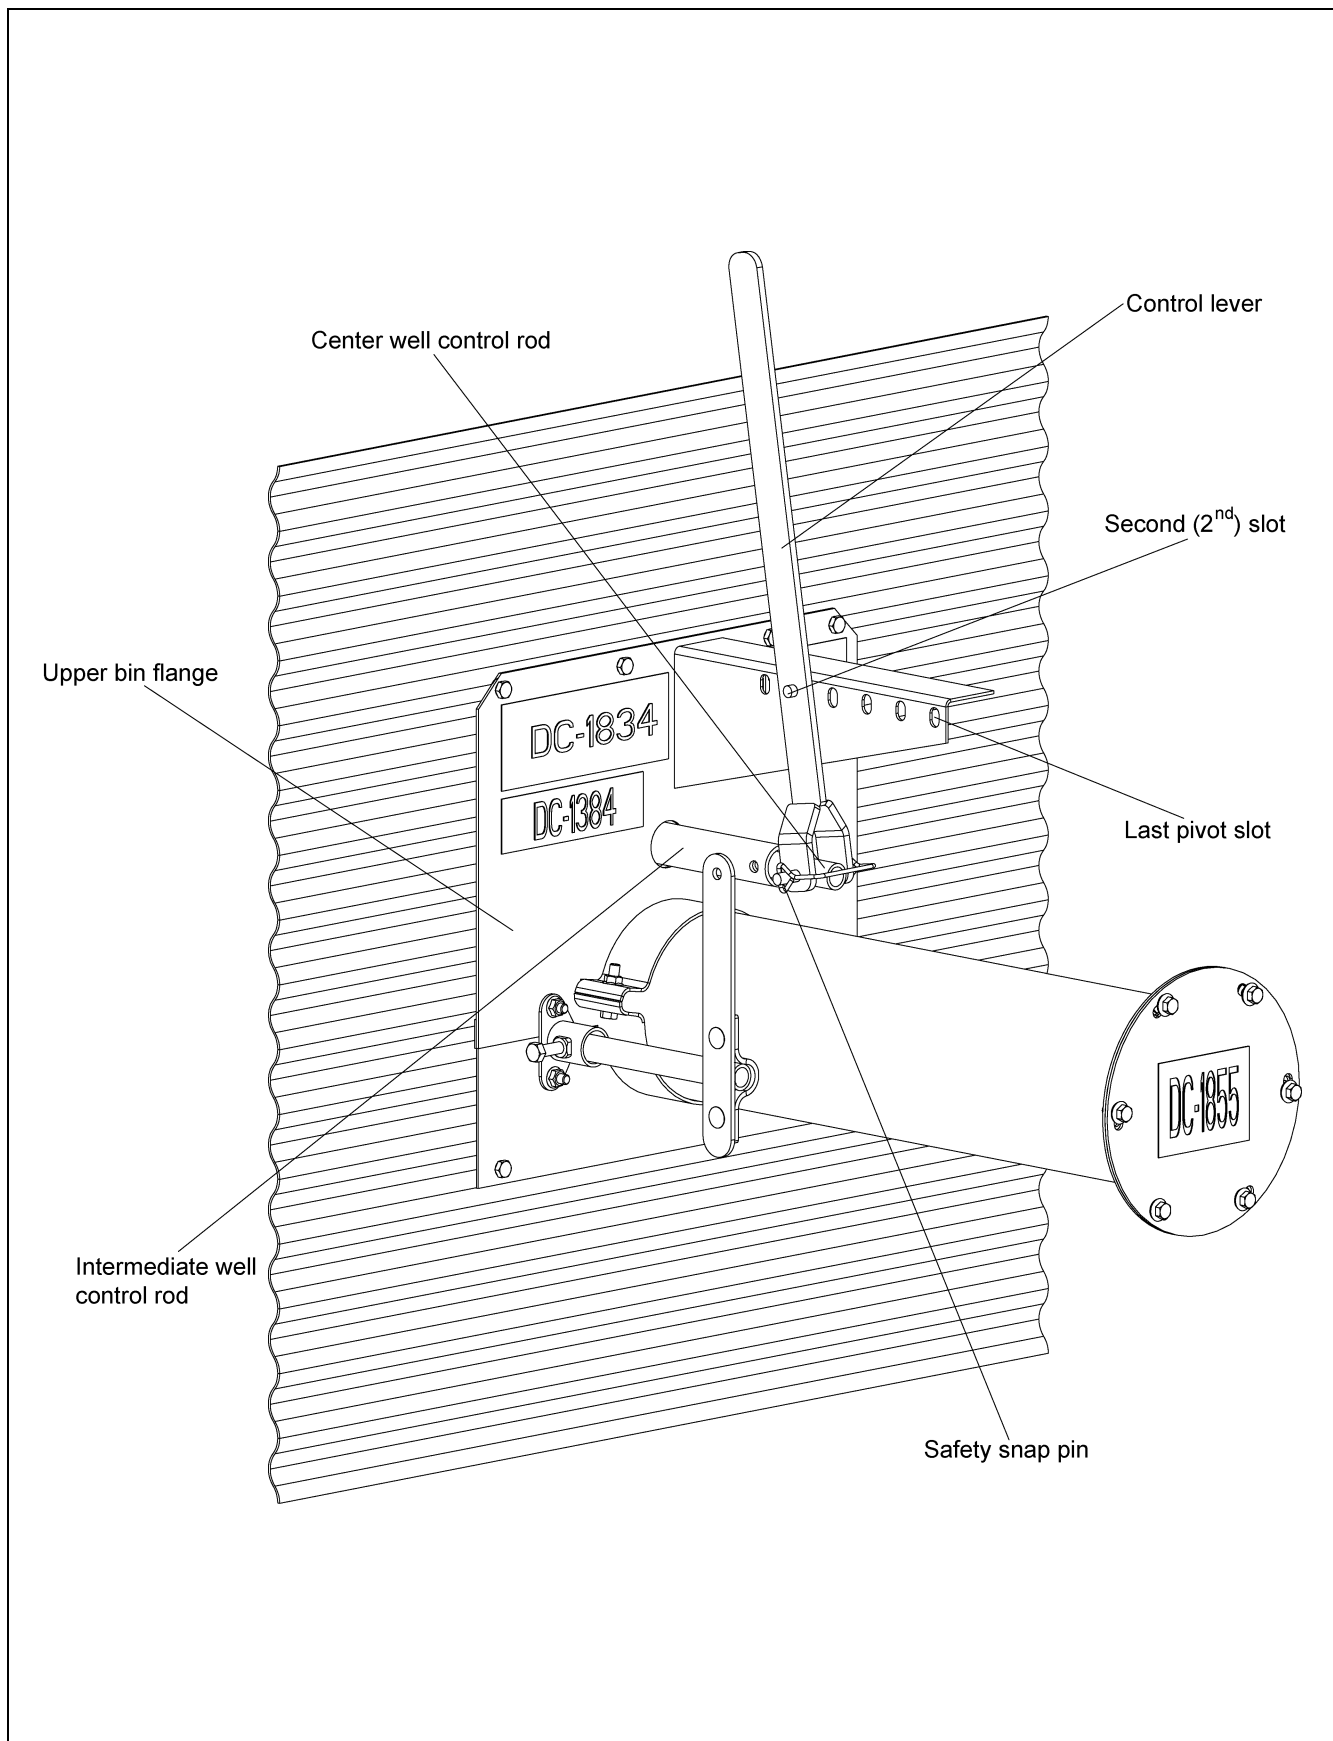
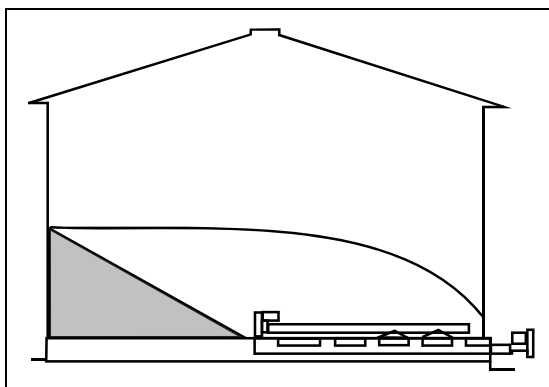

Figure 5C
Figure 5F
2. The safety snap pin should be inserted through the center well control rod and the control lever. Make sure it has NOT been inserted through the intermediate well control rod. (See Figure 5C on Page 39.)
3. Place control lever in the second slot and pull lever to open gradually until the desired flow is established. (See Figure 5C on Page 39.) It should not be necessary to open the gate more than 3" to 6".
6. Gradually open gates using the middle pivot slot until the desired flow of grain is reached. You should not open the gates more than 2" to 4". If gates need to be opened further, use the last slot for more leverage. (See Figure 5C on Page 39.) The remaining grain should look similar to Figure 5F.
6. Gradually open the gates until the desired flow of grain is reached. You should not open the gate more than 2" to 4". The remaining grain should look like Figure 5F on Page 40.